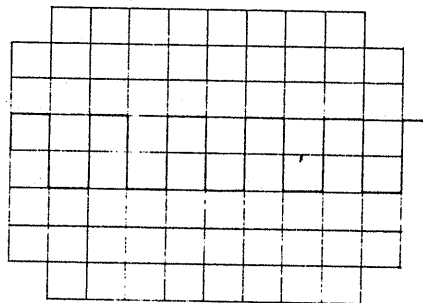

Fig. 5
- 3) Connect the signal of the CALIB (0.5 Vp-p) terminal to the vertical INPUT terminal (18) using the 942A Terminal Adaptor supplied.
- 4) Set the VOLTS/DIV switch (14) in the 0.1 V position, so adjust the VARIABLE knob (15) that the displayed signal amplitude becomes 2 DIV, and make the displayed waveform stationary by turning the LEVEL knob (25). When this is done, a waveform as shown in Fig. 5 will be displayed on the CRT screen.